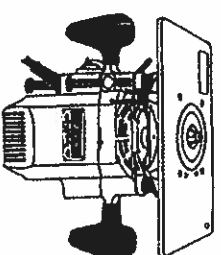

Fig. 9
8. Mount the Router plate to the router. (Fig. 9).